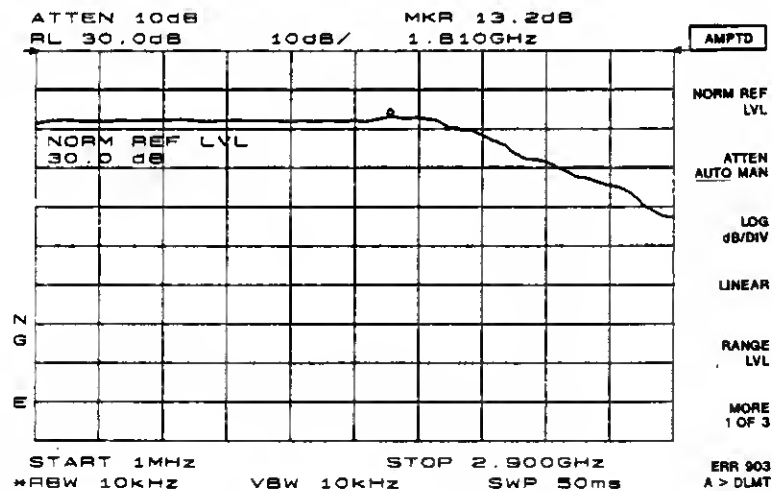

Figure 3-29. **NORM REF POSN** is a trace function.
By increasing **NORM REF LVL** to 30 dB, as shown in Figure 3-29, the trace moves down on the screen. Note the following three instrument parameters: (1) the input attenuator value still remains at 10 dB, (2) the marker-amplitude readout displays 13.2 dB, and (3) the ERR 903 A>DLMT error message is still displayed, even though the signal appears to be fully within the graticule.
Hence, Figure 3-29 shows that **NORM REF LVL** is a trace function that can position the active trace without changing analyzer settings. The ERR 903 A>DLMT error message is an indicator that the actual measured trace may fall outside of the analyzer's measurement range with the current settings. By adjusting **RANGE LVL**, thereby changing the input attenuator and IF gain, compression-free measurements are assured.